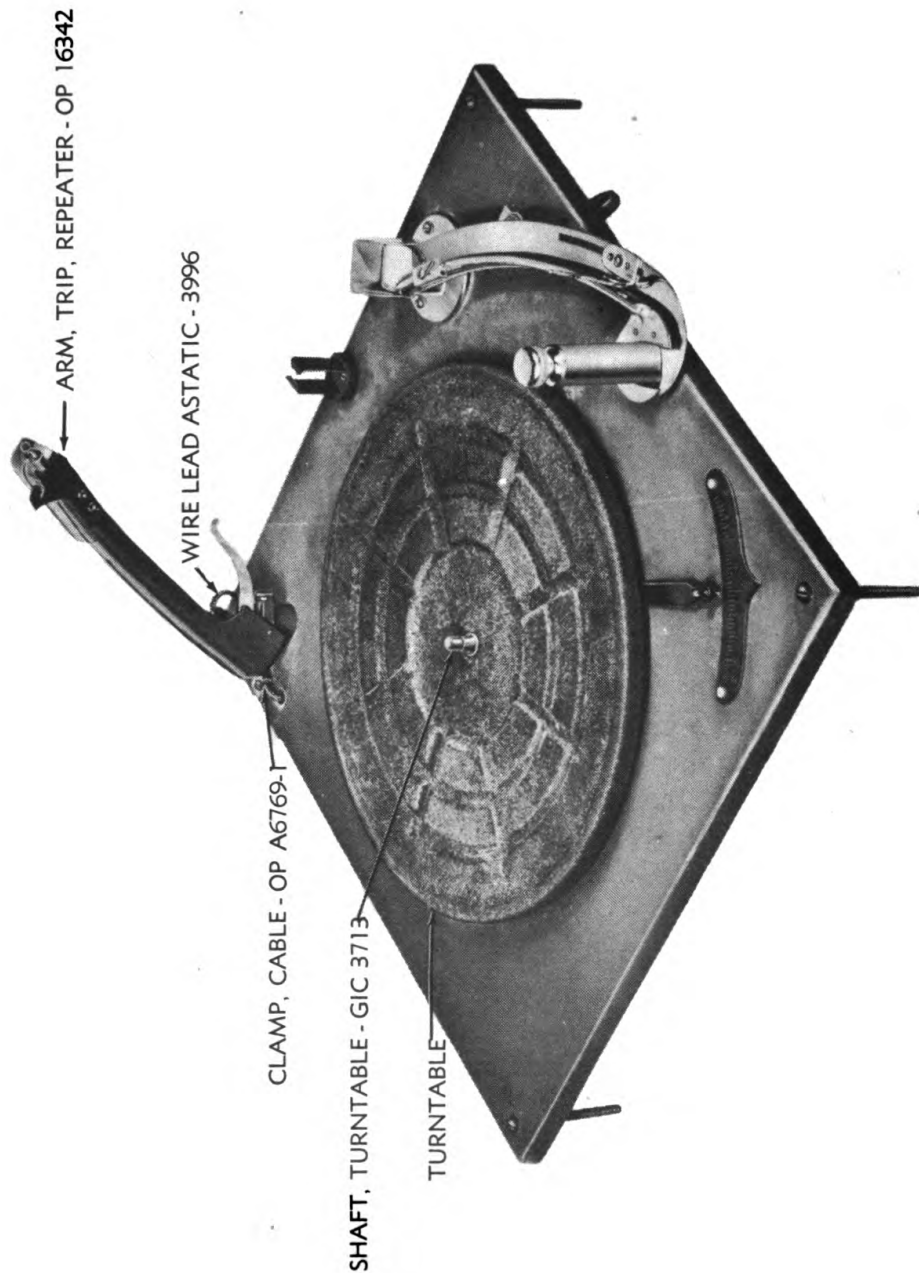

Figure 72 — Record Repeater Mechanism — Top View
(2) The top and bottom views of the record repeater are shown in figures 72 and 73.